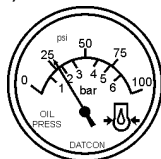

Figure 45. Oil Pressure Gauge
9. The engine oil pressure gauge (Figure 45) will indicate the oil pressure of the engine. Under normal operating conditions the oil pressure is approximately 42 to 71 psi. (290~490 kPa).